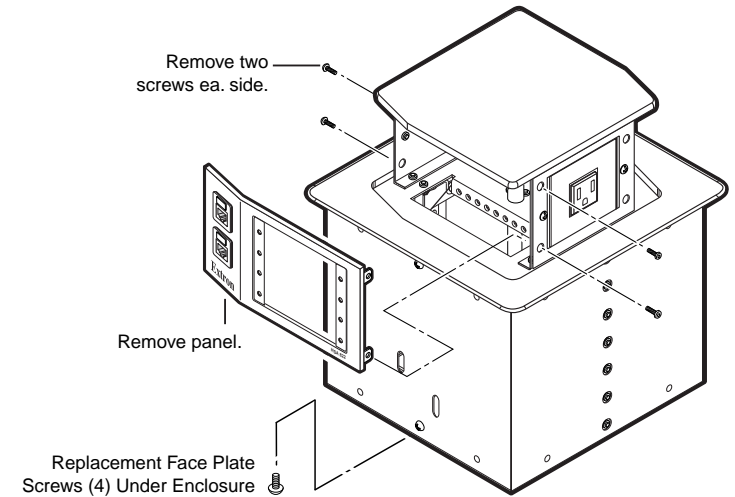

Figure 2-4 — Removing the AAP panel from an HSA 822
1. Remove the top and bottom screws on the right and left sides of the AAP panel (figure 2-4). Retain the screws. Lift the panel away from the enclosure as far as the connected cables allow and then allow the panel to dangle, supported by its connected cables.